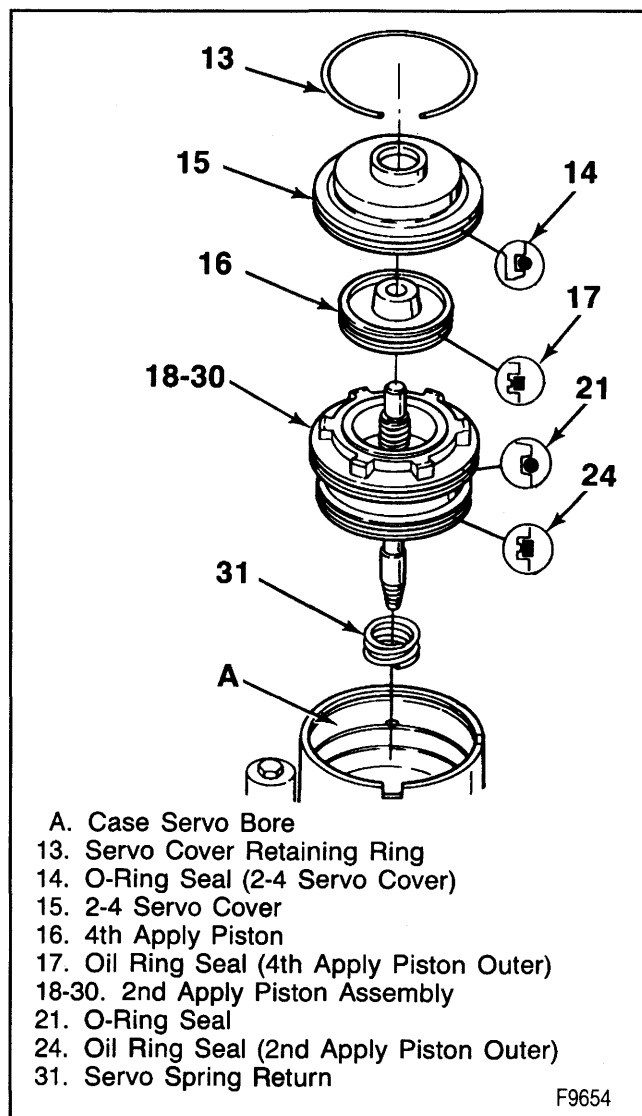

Figure 5—2-4 Servo
Disassemble (Figures 5, 6, and 7)
Assemble (Figures 5, 6 and 7)
- Make sure the seals are correctly positioned (figures 5 and 6).
Install or Connect (Figures 5 and 6)